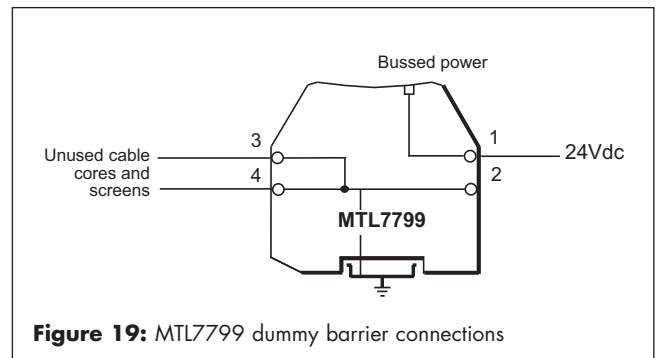

**Figure 18:** Bonding practice where hazardous-area equipment cannot meet required standards of insulation from earth
- Figure 18 shows the 0V rail of the safe-area equipment returned to the barrier DIN-rail by a separate insulated conductor and the structural earths of any safe-area equipment returned separately to the neutral star-point. This reduces interference problems but is not essential for safety reasons.